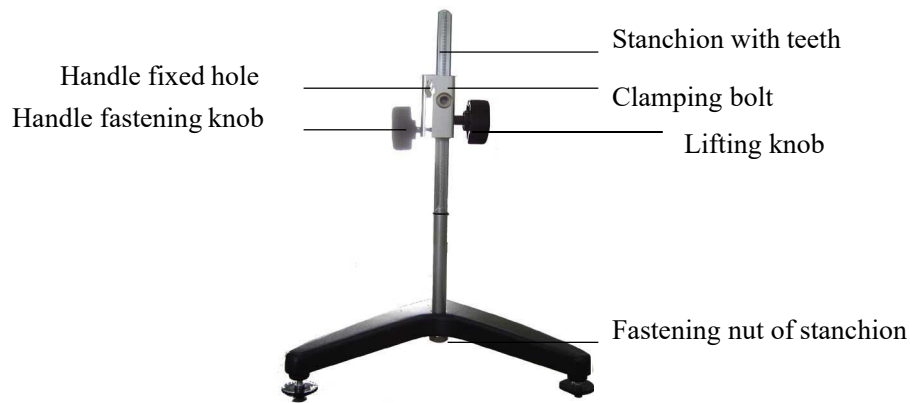

Figure 2
- i. Screw the stanchions into the hole on the base, put the tooth side of the stanchions facing on the front of base, and tight it by a wrench to avoid loosening (Figure 2).